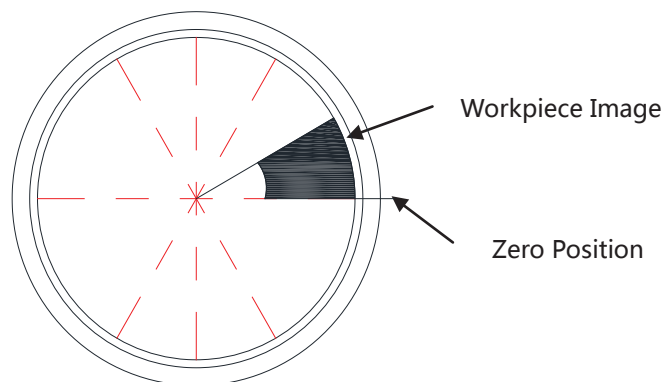

Fig 10 Angle Coordinate Measurement
6.2.3.2 Adjust the angle to the center of the projection screen cross line (as Fig 10).